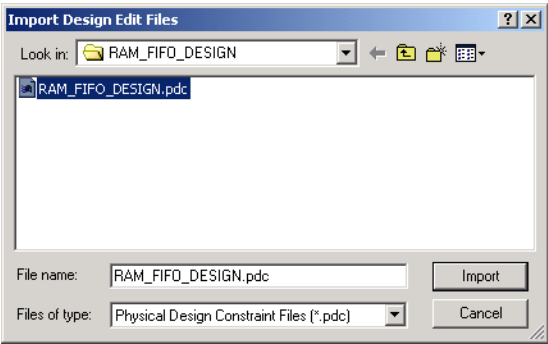

Figure 7-9. Selecting the PDC Files
2. **Click *the Add button*.** The Add Auxiliary Files dialog box appears, as shown in Figure 7-9.